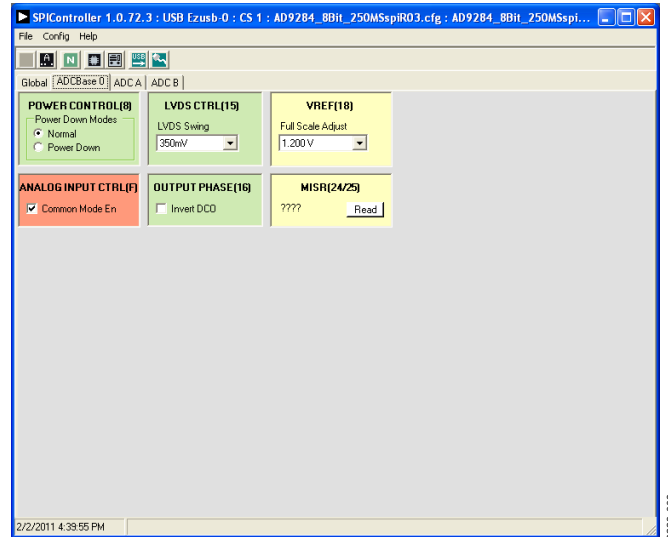
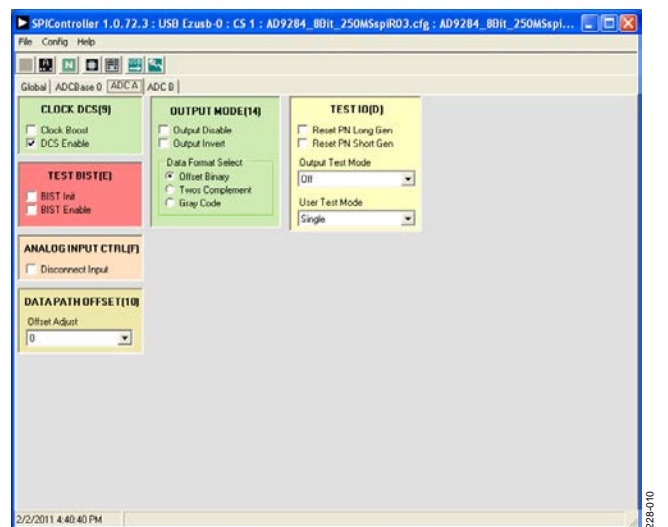

Figure 9. SPIController, ADC Base0
Figure 10. SPIController, ADC A Page
3. In the **ADCBase 0** tab of the **SPIController** window, you can access all global register settings (see Figure 9). See the AD9284 data sheet; the AN-878 Application Note, *High Speed ADC SPI Control Software*; and the AN-877 Application Note, *Interfacing to High Speed ADCs via SPI*, for additional information.
4. Note that other settings can be changed on the **ADCBase 0** page (see Figure 9) and the **ADC A** and **ADC B** pages (see Figure 10) to set up the part in the desired mode. The **ADCBase 0** page settings affect the entire part, whereas the settings on the **ADC A** and **ADC B** pages affect the selected channel only. See the AD9284 data sheet; the AN-878 Application Note, *High Speed ADC SPI Control Software*; and the AN-877 Application Note, *Interfacing to High Speed ADCs via SPI*, for additional information on the available settings.